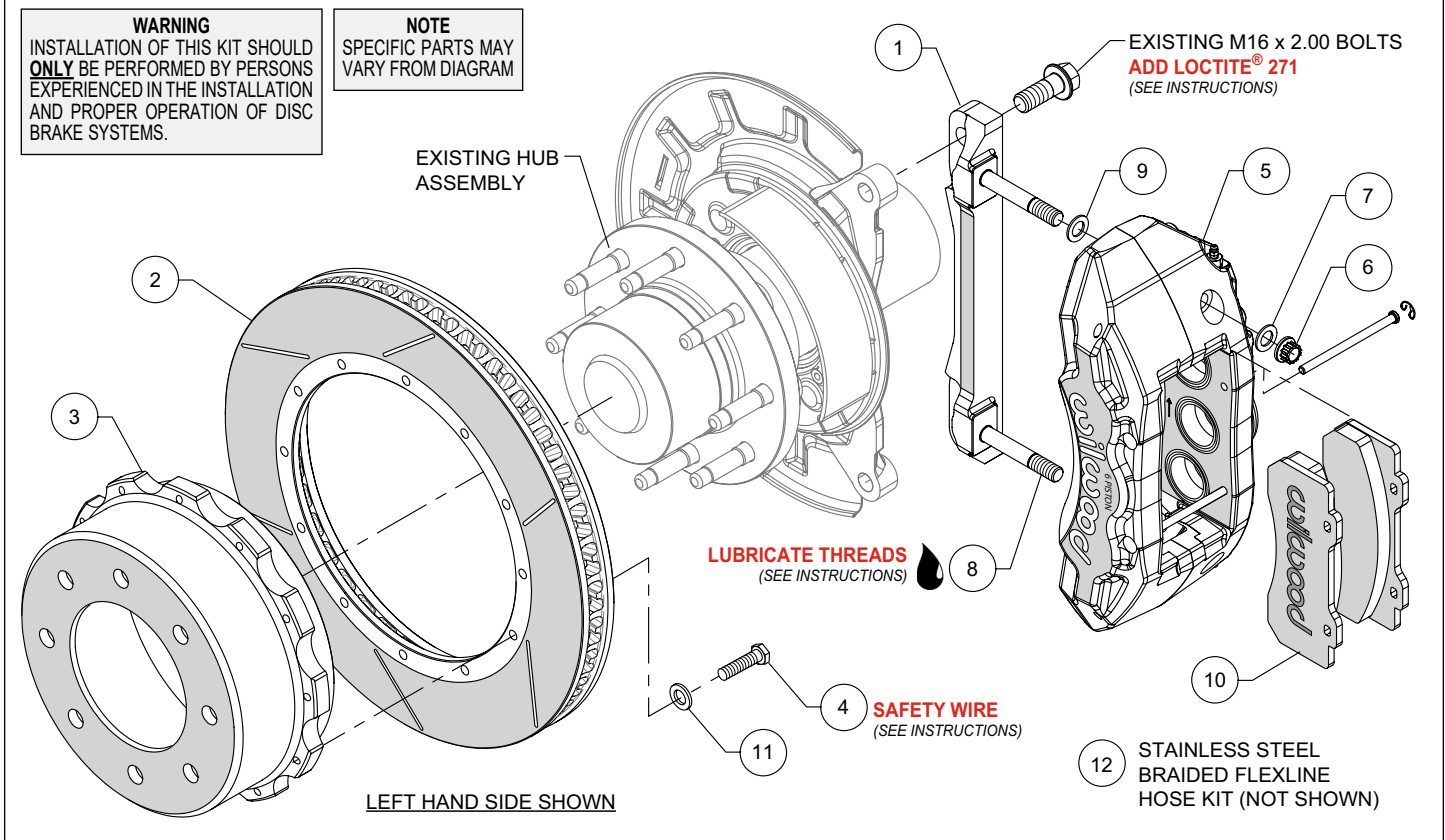
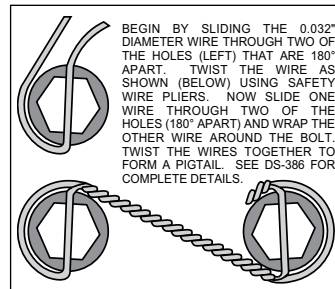

Figure 1. Typical Installation Configuration
Figure 3. Safety Wire Diagram
**NOTE:** Numbers in parenthesis refer to the parts list and Figure 1 on the preceding pages.
- The caliper mount bracket (1) should initially be installed with clean, dry threads on the mounting bolts. Orient the bracket as shown in Figure 1 and Photo 1, and install using saved OE bolts. Temporarily tighten the mounting bolts. **NOTE:** *The bracket must fit squarely against the mount bosses on the upright.* Inspect for interference from casting irregularities, machining ridges, burrs, etc. Remove the mounting bolts one at a time and apply red *Loctite*® 271 to the threads and torque to manufacturer's specifications.
- Orient the rotor (2) and the hat (3) as shown in Figure 1 and Photo 2. Attach rotor to hat using bolts (4) and washers (11). Torque bolts to 25 ft-lb using a criss-cross pattern. The bolts must be safety wired using standard 0.032 inch diameter stainless steel safety wire as shown in Figure 3. Please refer to Wilwood's data sheet DS-386 (available at [www.wilwood.com/Pdf/DataSheets/ds386.pdf](http://www.wilwood.com/Pdf/DataSheets/ds386.pdf)) for complete safety wire installation instructions.
- NOTE:** *This kit contains distinct right and left hand calipers that must be mounted in a specific direction, as described below.* Lubricate the caliper mounting studs (8) with lightweight oil. Initially place one .032" thick shim (9) on each stud as shown in Figure 1 and Photo 3. Mount the caliper (5) onto the bracket (1) using lock nuts (6) and washers (7), Figure 1. Ensure that the caliper is mounted so that the largest pistons are at the rotor exit end of the caliper, in relation to the direction of rotor rotation. Temporarily tighten the lock nuts.